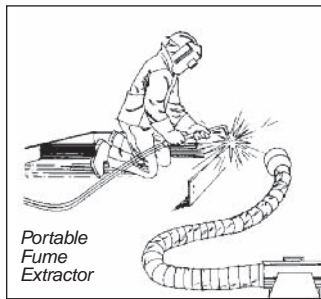

Figure 20.6
- 1) portable fume extractor with flexible ducting (Figure 20.6)